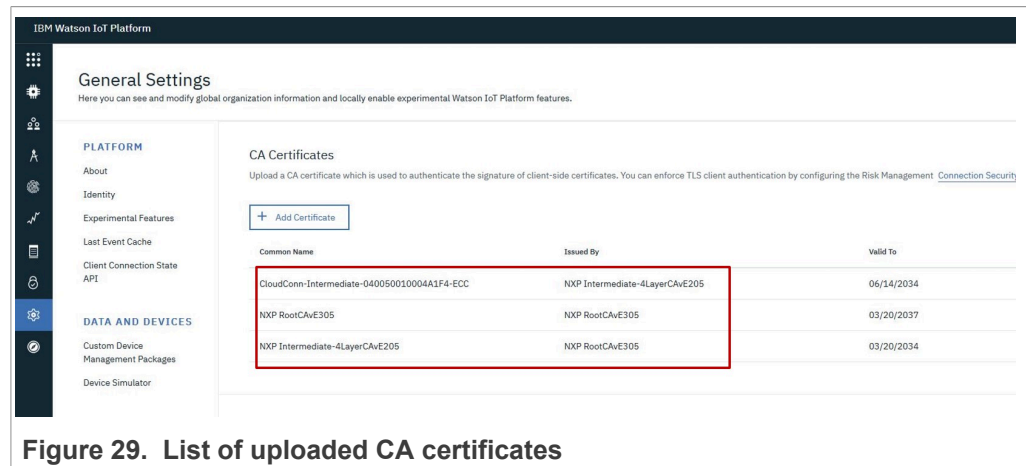

Figure 29. List of uploaded CA certificates
7. You should now have three CA certificates as shown in Figure 29: